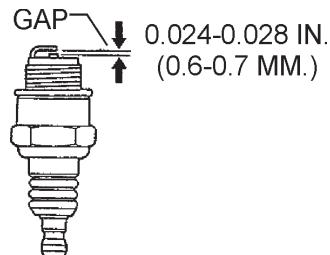

Figure 24. Spark Plug Gap
- Remove and clean the spark plug (Figure 24), then adjust the spark gap to 0.024 ~ 0.028 inch (0.6 ~ 0.7 mm). This unit has electronic ignition, which requires no adjustments.